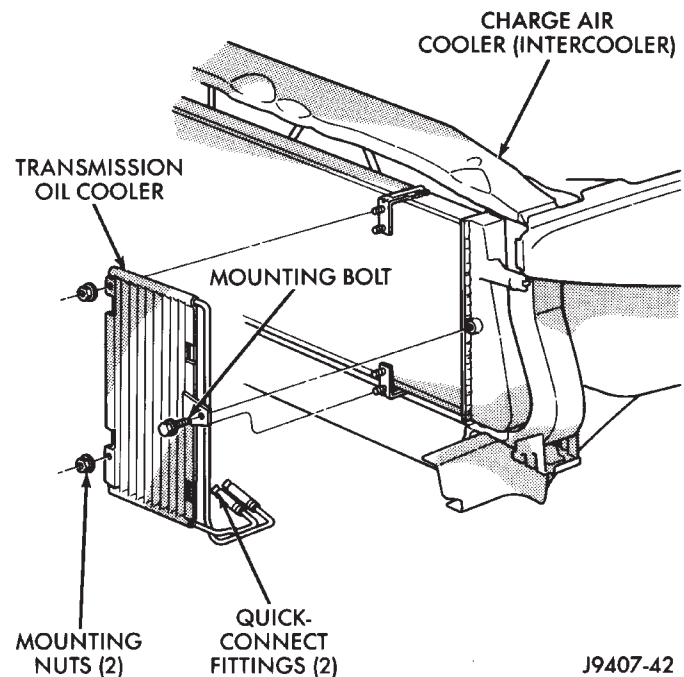

Fig. 36 Auxiliary Transmission Oil Cooler
- (1) Disconnect the battery negative cables.
- (2) Remove front bumper. Refer to Group 13, Frame and Bumpers for the correct procedures.
- (3) Place a drain pan under the oil cooler.
- (4) Raise the vehicle.
- (5) Using special tool #6931, disconnect the oil cooler quick-connect fittings from the transmission lines.
- (6) Remove the charge air cooler-to-oil cooler bolt and the two mounting nuts (Fig. 36).
- (1) Carefully position the oil cooler assembly to the vehicle.
- (2) Install two nuts and one bolt (Fig. 36). Tighten to 11 N·m (95 in. lbs.) torque.